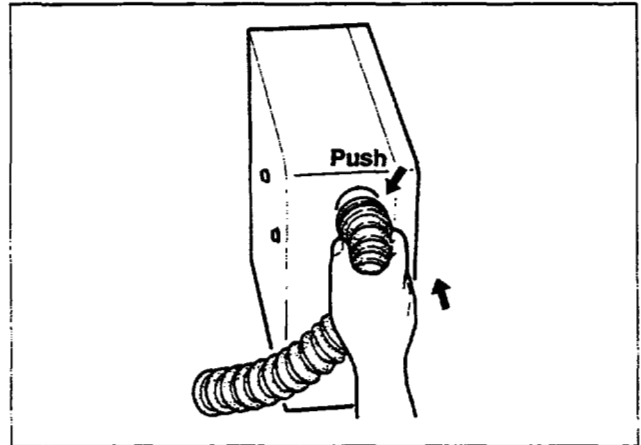

Fig. 10-43
(3) Press the upper end of the bushing into the bottom window of the control box. (See Fig. 10-43.)